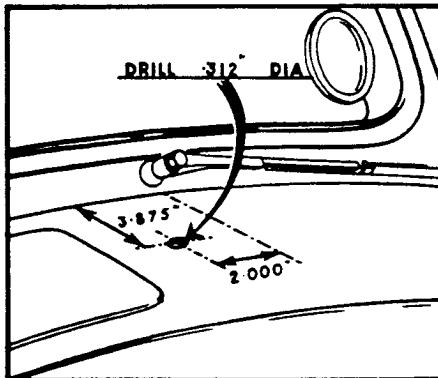

FIG. 6.
5. Drill the scuttle as shown in Fig.6:-